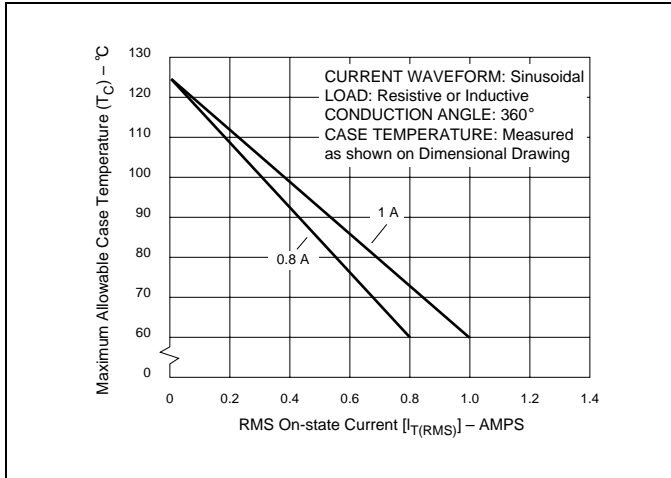
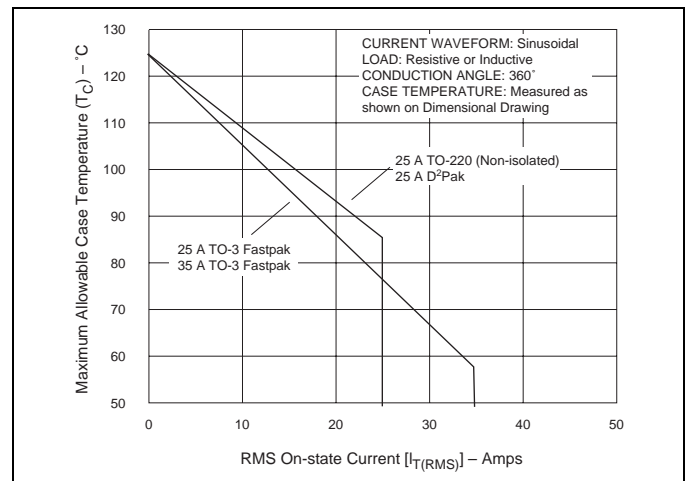
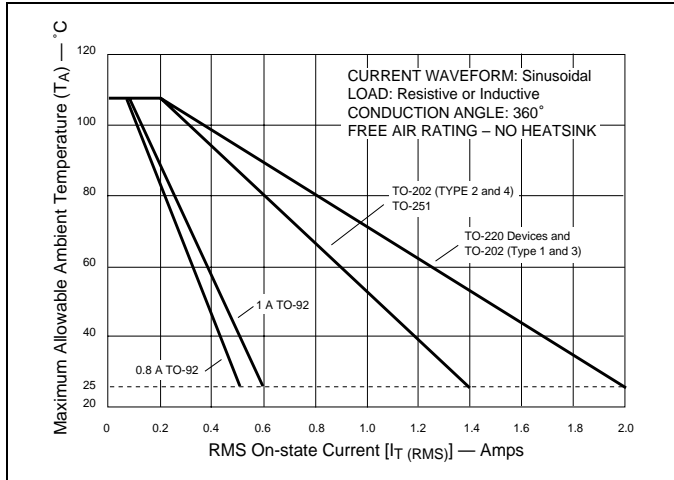

Figure E2.1 Maximum Allowable Case Temperature versus On-state Current (0.8 A and 1 A)
Figure E2.6 Maximum Allowable Case Temperature versus On-state Current (25 A and 35 A)
Figure E2.7 Maximum Allowable Ambient Temperature versus On-state Current
- (1) For either polarity of MT2 with reference to MT1 terminal
- (2) For either polarity of gate voltage ( $V_{GT}$ ) with reference to MT1 terminal
- (3) See Gate Characteristics and Definition of Quadrants.
- (4) See Figure E2.1 through Figure E2.7 for current rating at specific operating temperature.
- (11) See package outlines for lead form configurations. When ordering special lead forming, add type number as suffix to part number.
- (12) Initial on-state current = 200 mA dc for 0.8 A to 10 A devices, 400 mA dc for 15 A to 35 A devices
- (13) See Figure E2.1 through Figure E2.6 for maximum allowable case temperature at maximum rated current.
- (14) Pulse width  $\leq 10 \mu s$ ;  $I_{GT} \leq I_{GTM}$
- (15)  $R_L = 60 \Omega$  for 0.8 A to 10 A triacs;  $R_L = 30 \Omega$  for 15 A to 35 A triacs
- (16)  $T_C = T_J$  for test conditions in off state
- (17)  $I_{GT} = 300$  mA for 25 A and 35 A devices
- (18) Quadrants I, II, III only
- (19) Minimum non-trigger  $V_{GT}$  at 125 °C is 0.2 V for all except 50 mA MAX QIV devices which are 0.2 V at 110 °C.